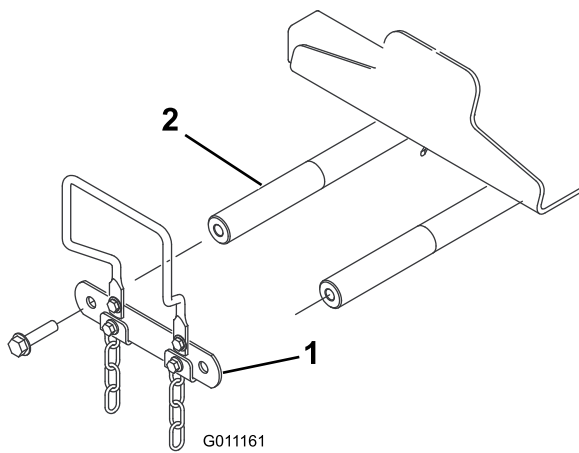

Figure 13
1. Remove the 2 bolts that secure the lift arm pivot shaft link to the lift arm pivot shafts, and remove and retain the pivot shaft link and bolts (Figure 13).